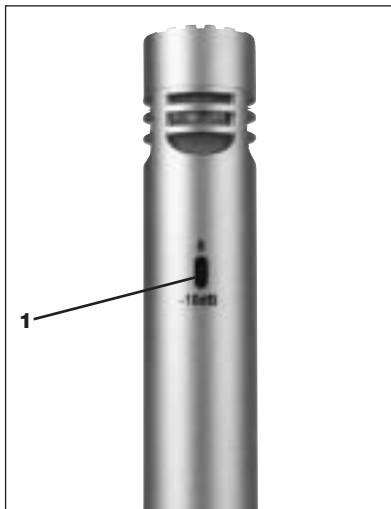

Fig. 1: Preattenuation switch (1) on **PERCEPTION 150** rear.
- **Switchable preattenuation pad:** The preattenuation switch (1) on the microphone rear (refer to fig. 1) lets you increase the headroom by 10 dB for distortion-free close-in recording. The preattenuation pad prevents the microphone's output level, particularly at low frequencies, from overloading the miniature transformers used in many mixer input stages, etc.